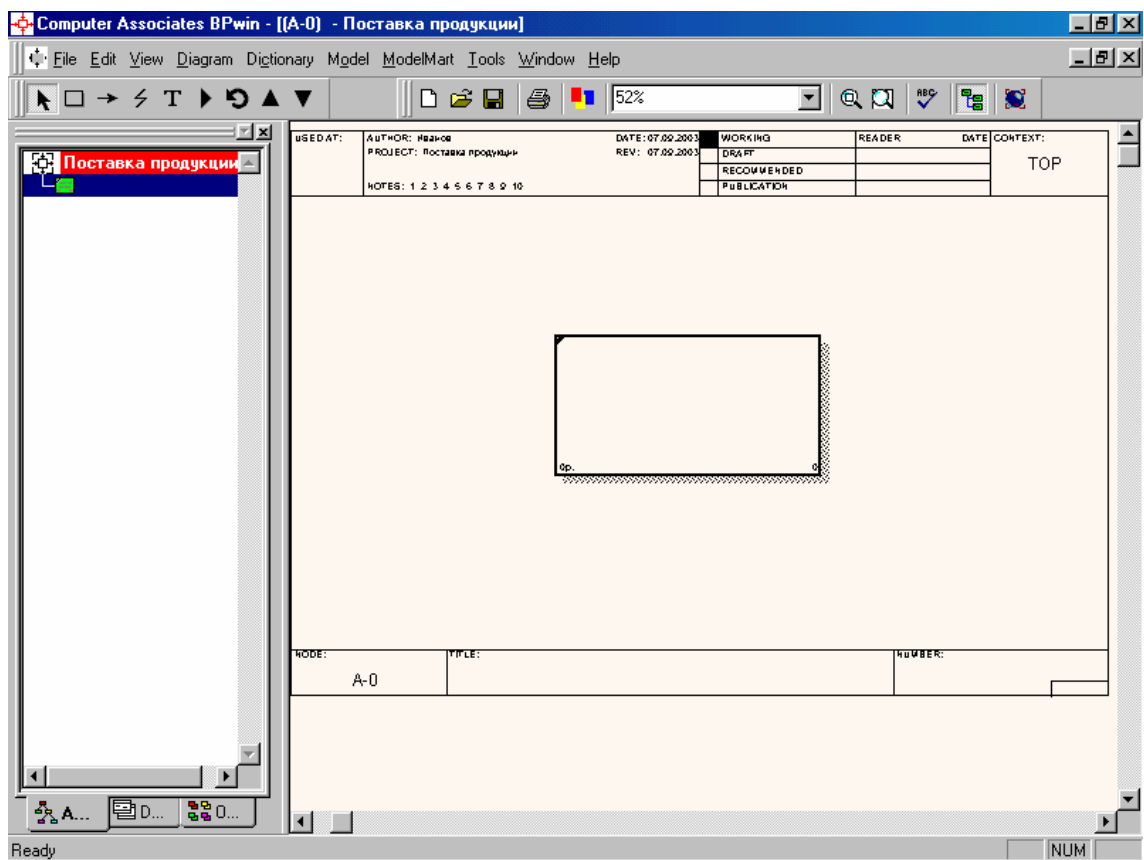

Figure 1.3
4. As a result the context diagram will be created (Figure 1.3).